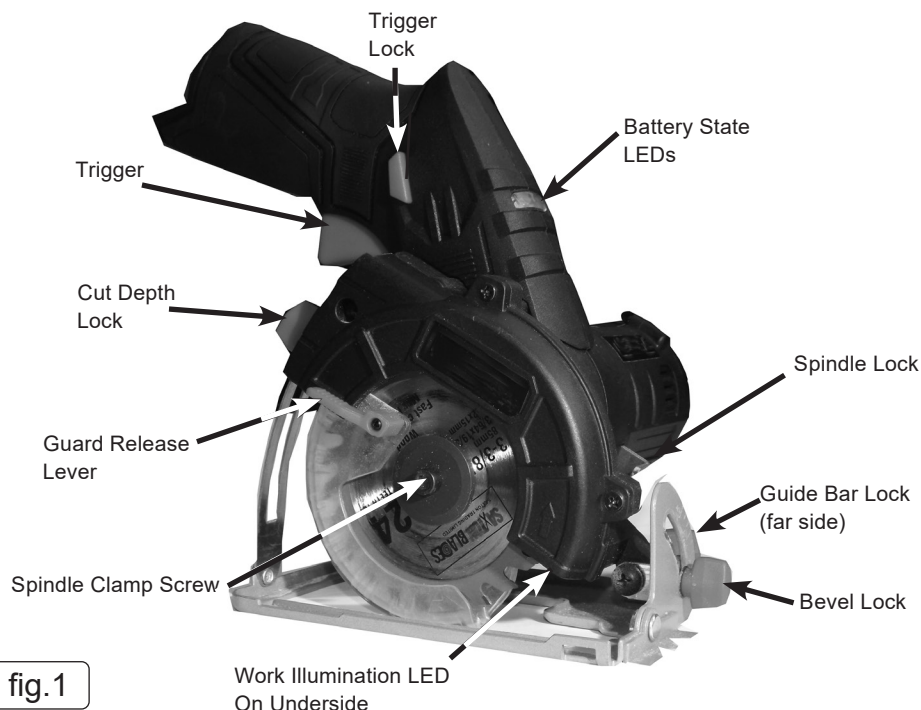

fig.1
- ❑ **WARNING:** Before fitting the battery and attempting to start the motor, ensure that the Spindle Clamp Screw (fig.1) is correctly tightened and that the saw blade is correctly mounted.
5.2.1. Loosen the Bevel Lock (fig.1) and adjust the angle of the saw to suit. Use the scale engraved on the sole plate set to the required angle. Ensure that the Lock screw is firmly tightened before use.
5.3.1. Depress the Trigger Lock (fig.1) in either direction and gently squeeze the Trigger (fig.1).